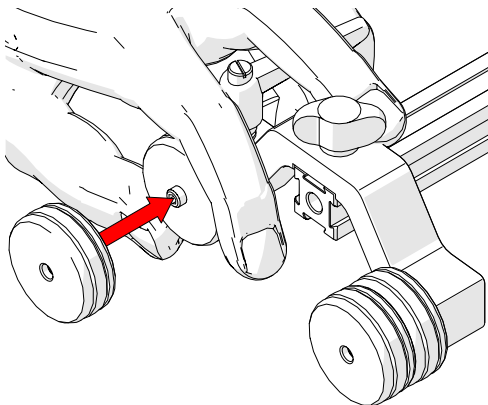

Fig. 35 - Screw on additional magnetic wheel
3. By hand, grip the wheel already attached to the wheel block. Overcome the magnetic resistance to screw the additional wheel to the axle of the wheel block (*Fig. 35*).